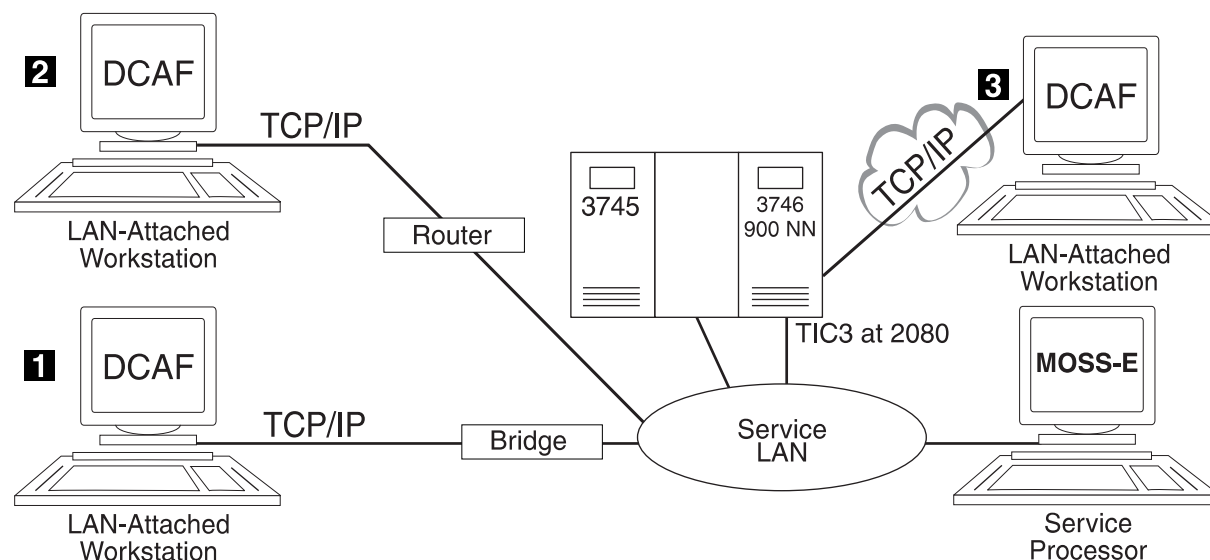

Figure 9-1. Types of TCP/IP Service LAN-Attached Remote Workstations
- A **bridge** with filtering to the service LAN (see **1** in Figure 9-1).
- A **non-3746** router (see **2** in Figure 9-1)
- The **3746** router (see **3** in Figure 9-1).
**Step 7.** If you have a link through the 3746 (see **3** in Figure 9-1 on page 9-1), enter the **TIC3 2080** address in the **SP default router** field and click **Next** and **Close**.